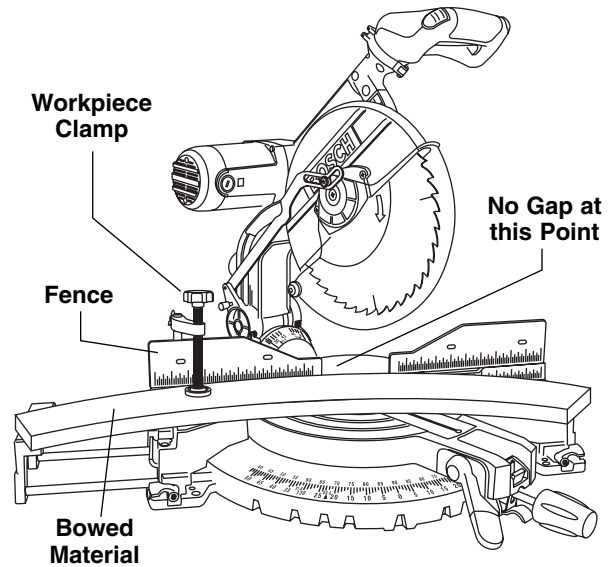

Figure 1. Bowed Material
**WARNING** If workpiece is bowed or warped, clamp it with the outside bowed face toward the fence. Always make certain that there is no gap between the workpiece, fence and table along the line of cut. Bent or warped workpieces can twist or rock and may cause binding on the spinning saw blade while cutting (Figure 1).